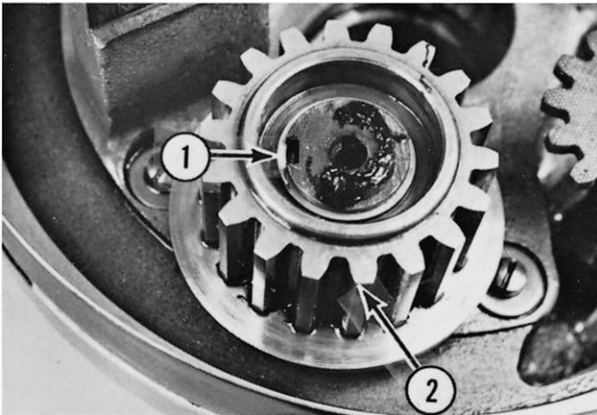

**Fig. 10-12**
F. Install the agitator shaft spacer (V-1401) and the upper bearing (1, Fig. 10-12) and the retaining ring (2, Fig. 10-12).
G. Lightly coat the "O" ring with Permatex #2, and install the "O" ring (3, Fig. 10-12) and oil baffle (4, Fig. 10-12). Secure with the two screws.
H. M-802 only. Install the agitator shaft spacer and internal pinion shim (5, Fig. 10-12).